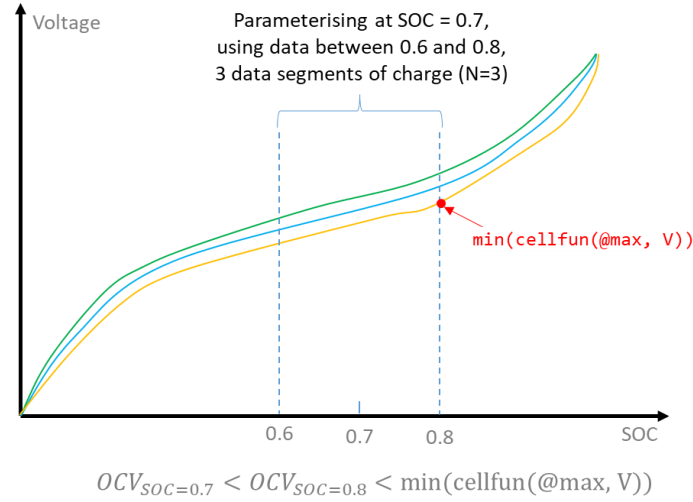
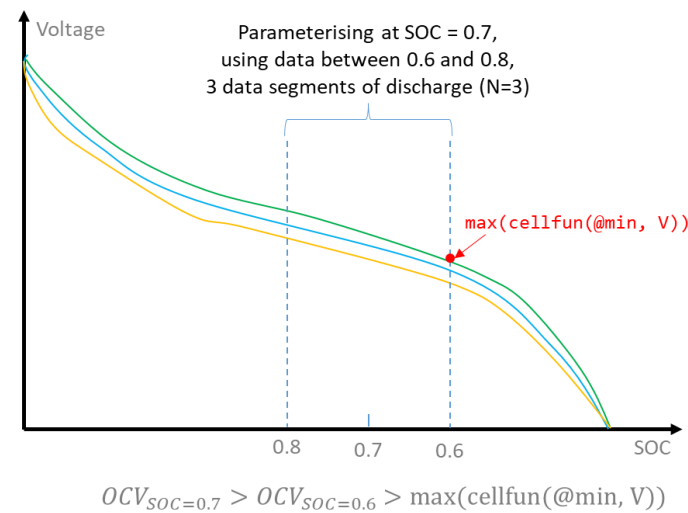

Fig. 13. Explanation of the constraint ($OCV \leq \min(\text{cellfun}(@\text{max}, V))$) in full cell/cathode charge parameterisation.
Fig. 14. Explanation of the constraint ($OCV \geq \max(\text{cellfun}(@\text{min}, V))$) in full cell/cathode discharge parameterisation.
The first part constrains the upper limits for OCV, and can be further divided into three cases – full cell, cathode and anode. For full-cell parametrisation, the upper limit is V_{max} . For cathode parametrisation, the upper limit is $1.2 * V_{max}$ – again, the multiplication factor 1.2 was decided based on rough observations so is empirical, which may cause overfitting. For anode parameterisation, the upper limit is 0, as anode voltage is considered below zero. Apart from the above three cases, **there is one special case - full cell/cathode charge**. In this case, `cellfun(@max, V)` gets the maximum voltage of EACH data segment, then `min(cellfun(@max, V))` gets the minimum of maximum voltage of ALL data segments and is used as the upper limit. **Still sounds complicated? Fig. 13 gives graphical explanations on it.** Then it comes up with another question – why bother setting up this constraint for the special case? **This is because in full cell/cathode charge parameterisation, the constraint can effectively & essentially lead to a monotonous OCV curve over the full SOC range. In other words, the constraint is used to guarantee a monotonous OCV, which was implemented in a very recent version of BatPar. Quite straightforward - if the developer was forced to name the most ingenious piece of codes over BatPar, then this constraint would be it.**
The second part constrains the lower limits for OCV, and can be further divided into four cases – full cell/cathode discharge, full cell/cathode charge, anode charge, and anode discharge. For full cell/cathode discharge parameterisation, $\text{cellfun}(@\text{min}, V)$ gets the minimum voltage of EACH data segment, then $\max(\text{cellfun}(@\text{min}, V))$ gets the maximum of minimum voltage of ALL data segments and is used as the lower limit. **Still sounds complicated? Fig. 14 gives graphical explanations on it. This constraint can effectively & essentially lead to a monotonous OCV curve over the full SOC range. In other words, the constraint is used to guarantee a monotonous OCV, which was implemented in a very recent version of BatPar.**
For full cell/cathode charge parameterisation, the lower limit is V_{min} , which is the minimum full-cell voltage defined by the user in ⑩. For anode charge parameterisation, the lower limit is $(-0.2) * V_{max}$ - again, the multiplication factor -0.2 was decided based on rough observations so is empirical, which may cause overfitting. Also, be noted that **anode OCV is considered below zero**. For anode discharge parameterisation, the lower limit is $\max(\text{cellfun}(@\min, V))$ – explanations for this will not be provided – it is homework for the reader. (To be fair, if you can understand *Fig. 13* and *Fig. 14*, then you should be able to understand this as well)